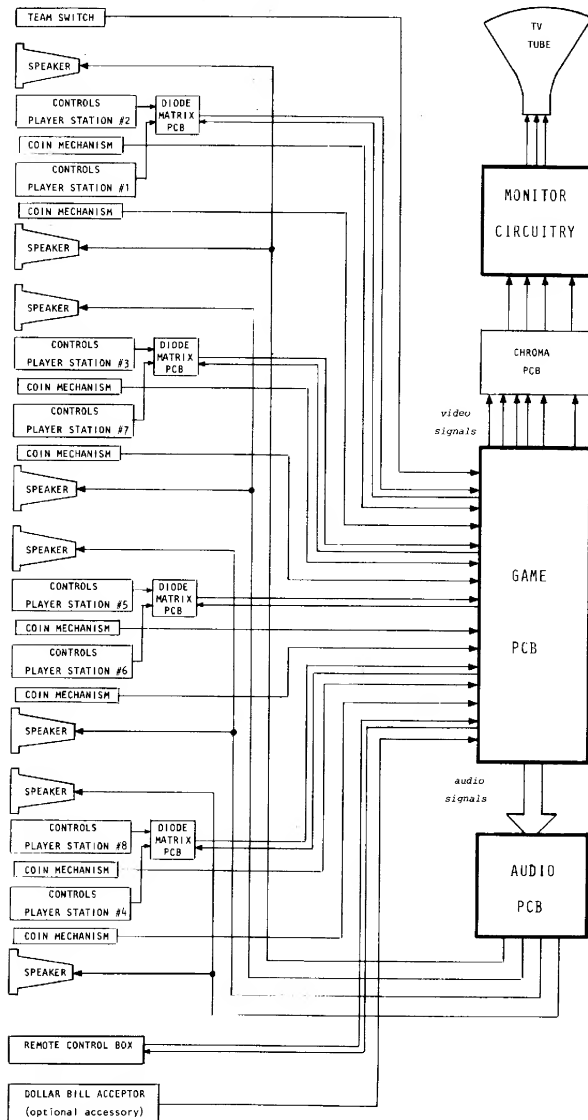

Fig. 3-1
The block diagram in Figure 3-1 shows the major functional parts of the TANK 8 game and how they are interconnected. Note that the game printed circuit board (PCB) sends video signals to the TV monitor and separate audio signals to the sound PCB. Also note the four diode matrix PCB's. Each diode matrix performs a "multiplexing" function by combining signals produced at two player stations. This design feature significantly reduces the number of wires needed in the harness leading to the game PCB.
3.2.2 TV MONITOR: The game's TV monitor is based upon a General Electric Model 25 MB color monitor. The Model 25 MB tuner, IF and audio modules have been removed, and the chroma module has been replaced by an Atari unit. The monitor is self-contained in its own chassis and is used as a video amplifier. Because the signals sent to the monitor by the game circuitry are not equivalent to the signals derived from commercial color TV broadcasts, the picture appearing on the screen is not like that of a home TV set and the monitor itself does not produce any sound. The game's sounds are produced by speakers that are driven directly by the game circuitry; the "audio" connections shown in Figure 3-1 point this out.